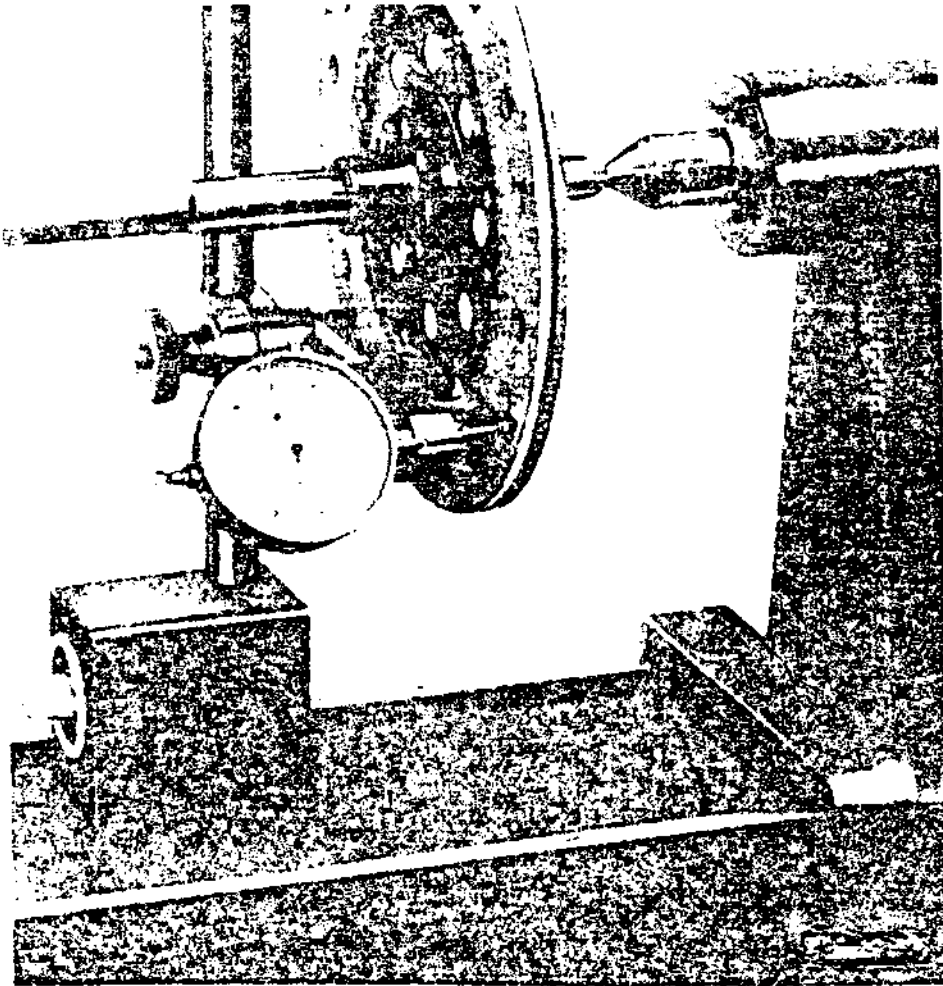

Figure 4 Checking Clutch Disc Run-out
- (g) Check the disc for run-out; measure 2.5 mm from the outer edge of the disc. The maximum run-out is 0.5 mm, see Figure 4.